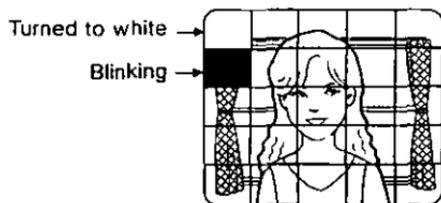

Fig. 56
- To mask other areas, move the cursor to the desired area by using the Up Switch (^) (10), Down Switch (v) (7), Left Switch (<) (9) or Right Switch (>) (8). The previous masked area then stops blinking and turns to white as shown in Fig. 56.